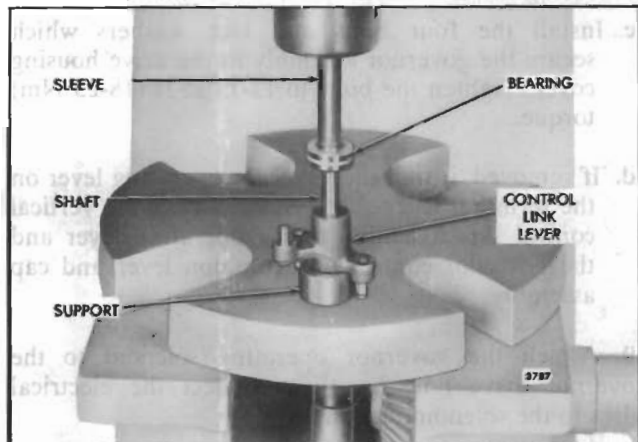

Fig. 19 - Installing Bearing on Governor Control Link Lever Shaft
- b. Support the control link lever, shaft and bearing assembly on the bed of an arbor press, with a spacer under the control link lever and shaft as shown in Fig. 19. Place a sleeve on top of the bearing inner race, then press the bearing tight against the control link lever.